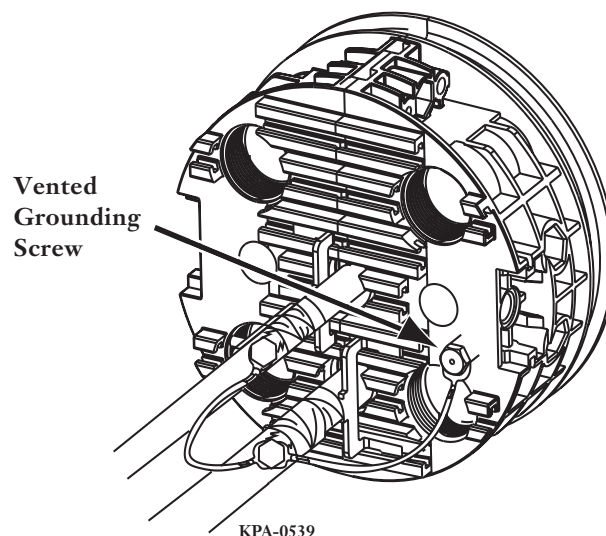

Figure 20 — Ground End Cap
- Step 4** Attach the opposite end of the second wire to the second expressed cable (Figure 20).